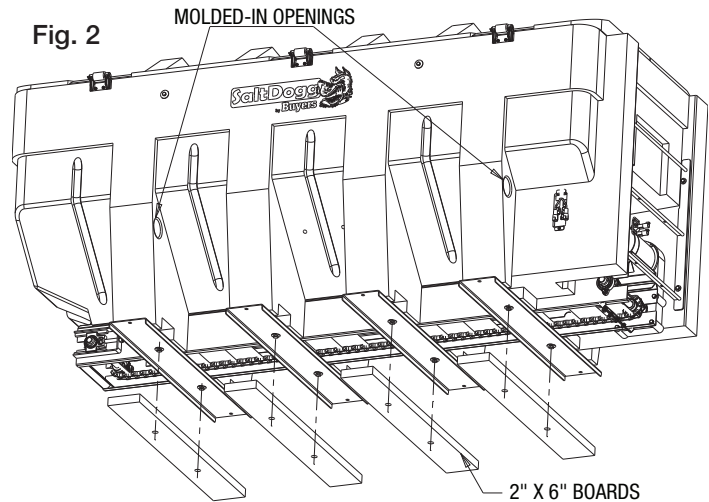
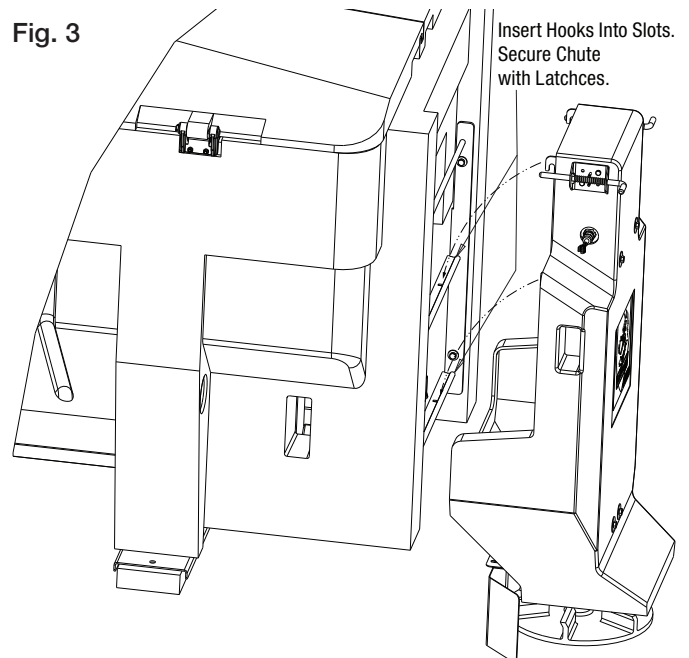

Fig. 2
Fig. 3
- E. Next, set the spreader in the truck body. Use four tie-downs to lift the spreader (Fig.2). Rectangular openings on the bottom of support legs can also be used to lift spreader using fork lift.
- F. Lower spreader onto 2" x 6" boards positioned in truck bed. Make sure that bolt heads in stainless steel cross members would go into boards openings (Fig. 2). Attach chute to the spreader. If necessary, slide spreader rearward to have at least 2" clearance between chute and rear most vertical obstruction. (Fig. 3)